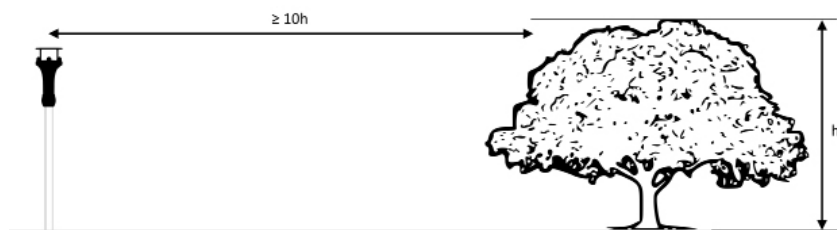

Figure 5 - Recommended minimum distance to obstacles
- In urban districts with low element height and density, it may be possible to use a site where the 'open country' standard exposure guidelines can be met. The closest obstacles should be at least 10 times their height distant from the anemometer (see Figure 5) and not be more than about 6 metres tall on average.